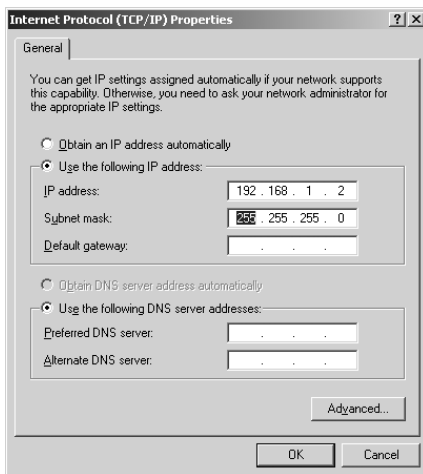

Figure 6: Internet Protocol (TCP/IP) Properties Window
6. Select Use the following IP Address, and fill in the details as shown in Figure 6.